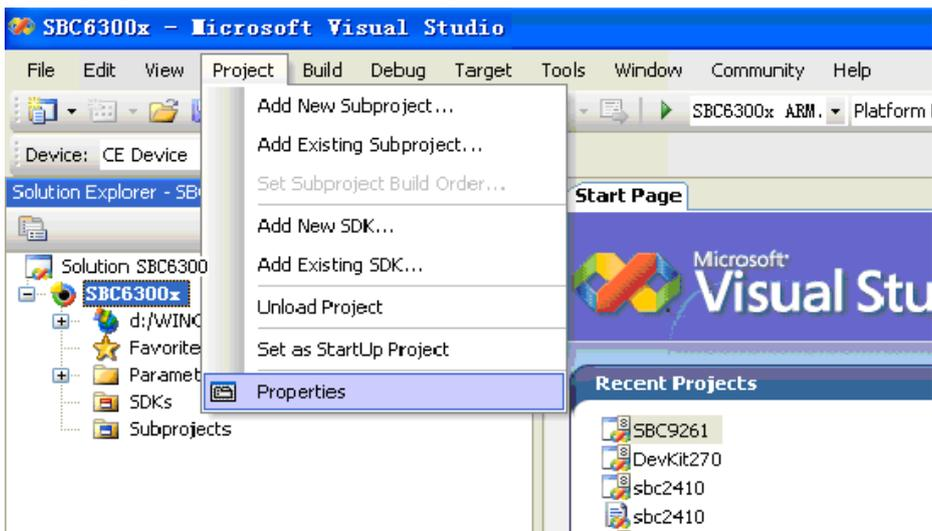

Figure 6.13
14. Click Project->properties in VS2005 , see Figure 6.13: